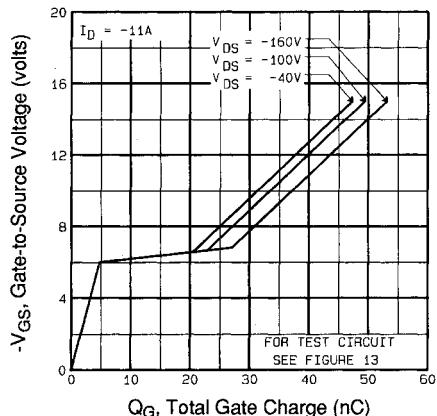

Fig 6. Typical Gate Charge Vs.
| Q_{gd} | Gate-to-Drain ("Miller") Charge | — | — | 27 | nC | $V_{\text{GS}}=-10\text{V}$ See Fig. 6 and 13 ④ |